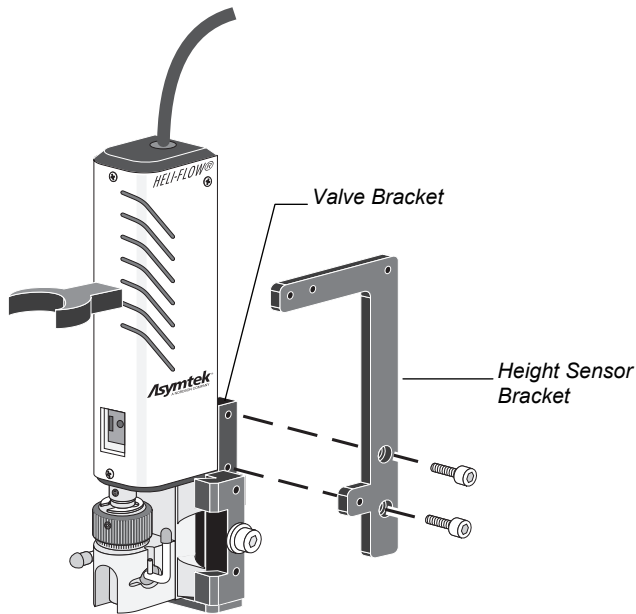

Figure 3-8 Attaching the Height Sensor Bracket (M-2000, X-1000 Systems)
6. Use a 3 mm hex key to attach the height sensor bracket to the valve bracket (Figure 3-8).